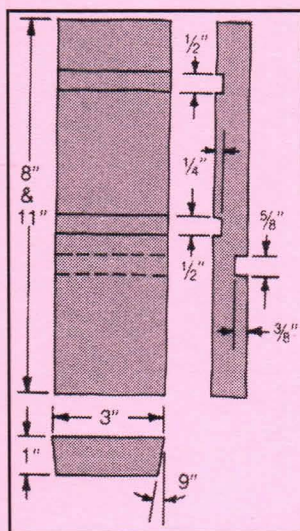

Figure 1. Shows face and edge views of staves.
3. Set up a dado head to make two ½" wide by ½" deep cuts in each stave to hold banding. These dados should be on the outside (wider) face of the staves 1½" and 13" from the top. See Figure 1.